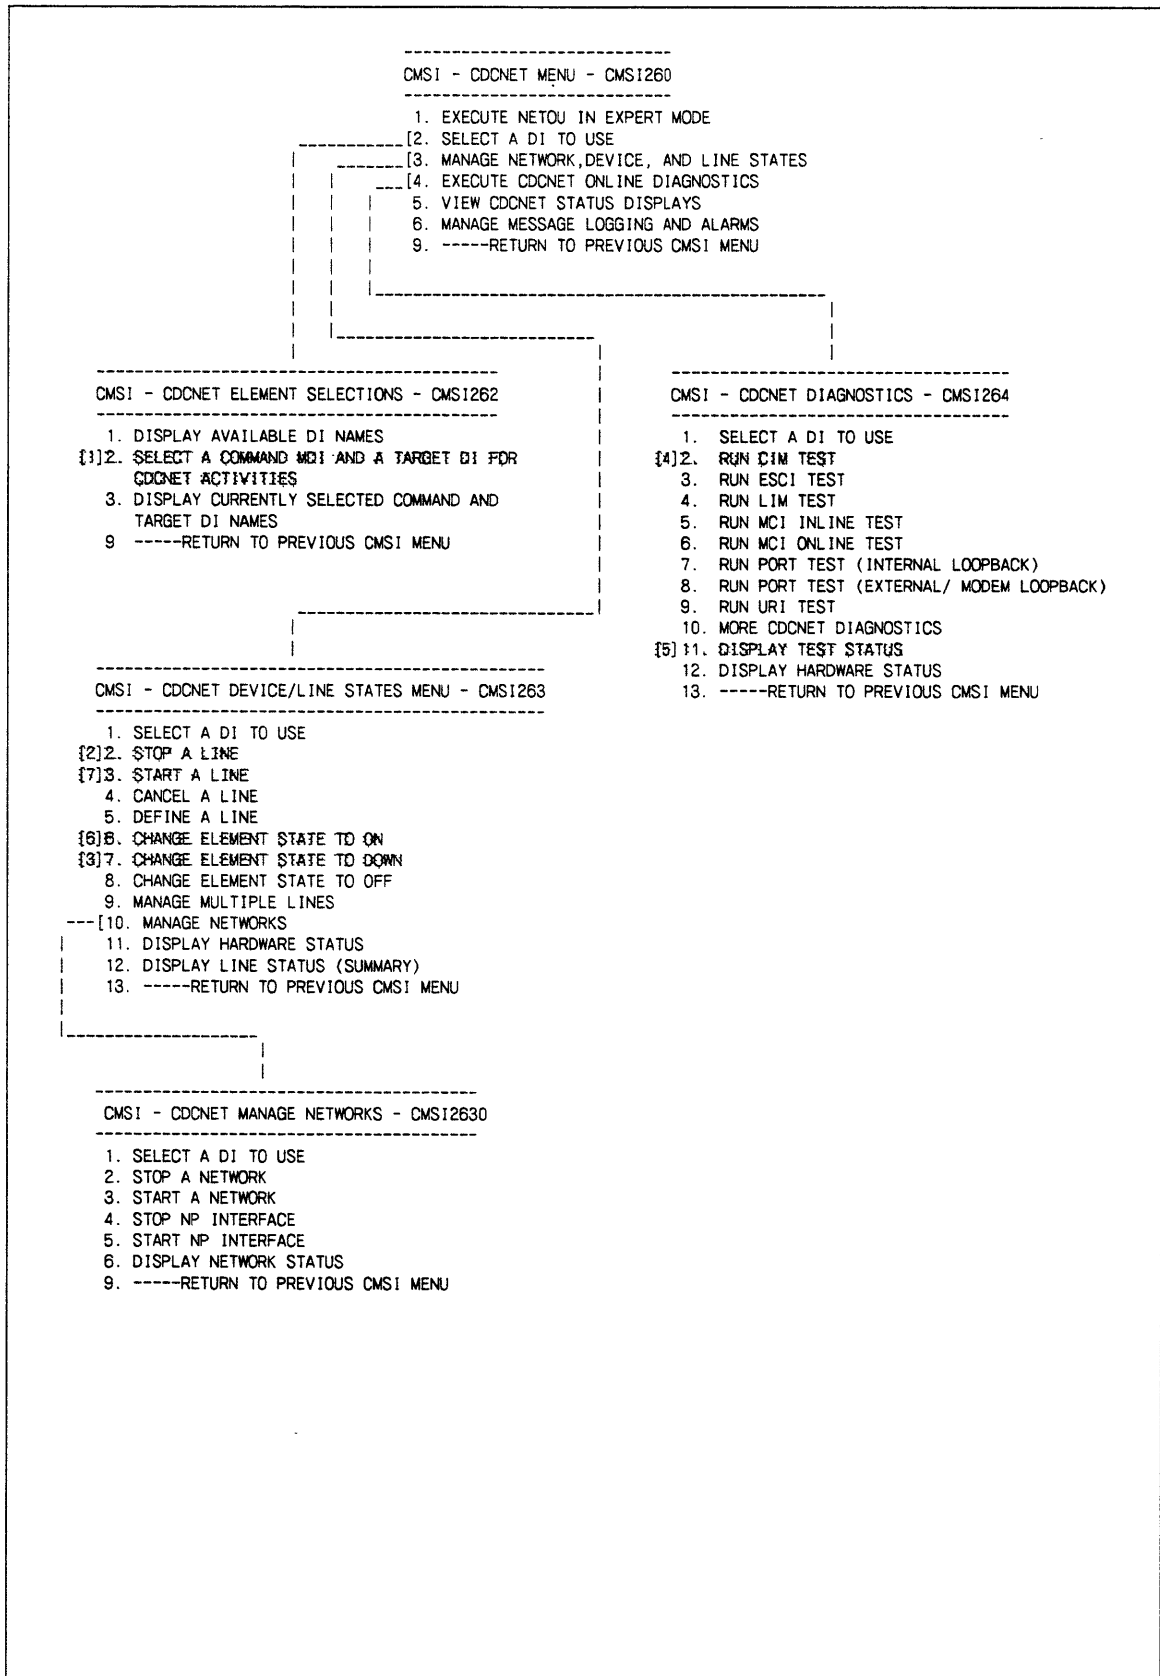

Figure 6-3. CMSI Menus for CIM Online Test
The following shows the sequence of actions necessary to run the CIM online test. Each menu choice is shown on figure 6-3 and described below. The purpose of this topic is to serve as a quick reference for the most frequently used menu selections. See chapter 4 for a complete description of CMSI. Familiarize yourself with the CIM test notes and procedure given earlier in this topic before running the test.
- Numbers in this column correspond to the bracketed numbers (for example, [1]) on figure 6-3.